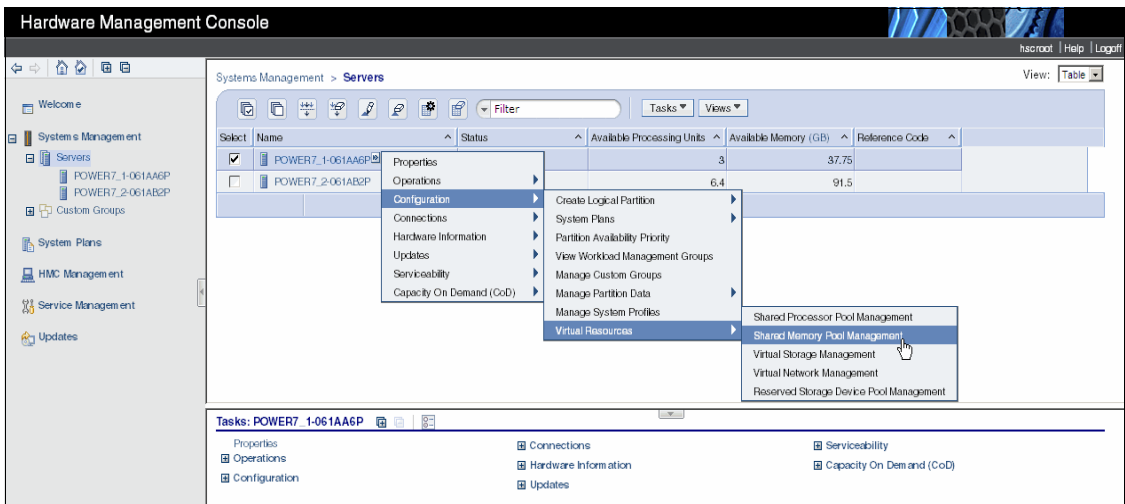

Figure 15-1 Creating a shared memory pool
1. On the Management Console, select the managed system on which the shared memory pool will be created. Then select **Configuration** → **Shared Memory Pool Management**, as shown in Figure 15-1.